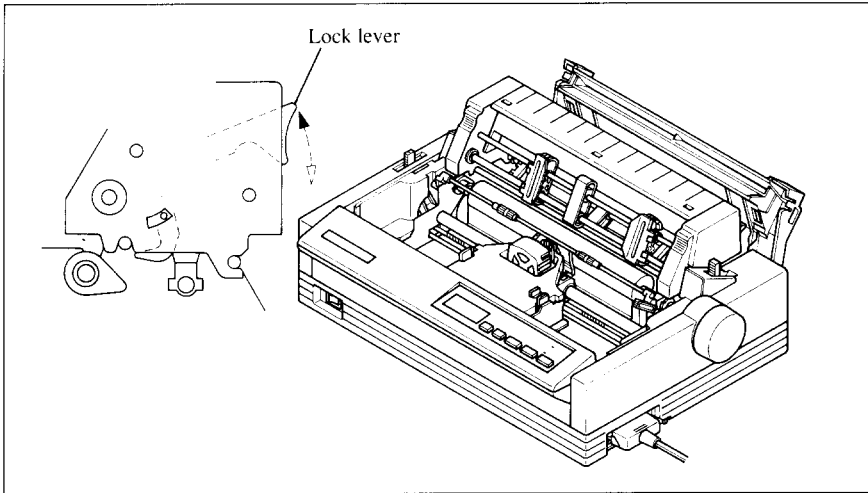

Figure 7-13. Install the Pull Tractor Unit onto the printer by pushing the lock levers.
5. Secure the Pull Tractor Unit firmly by pushing the lock levers on either side, as shown in Figure 7-13.